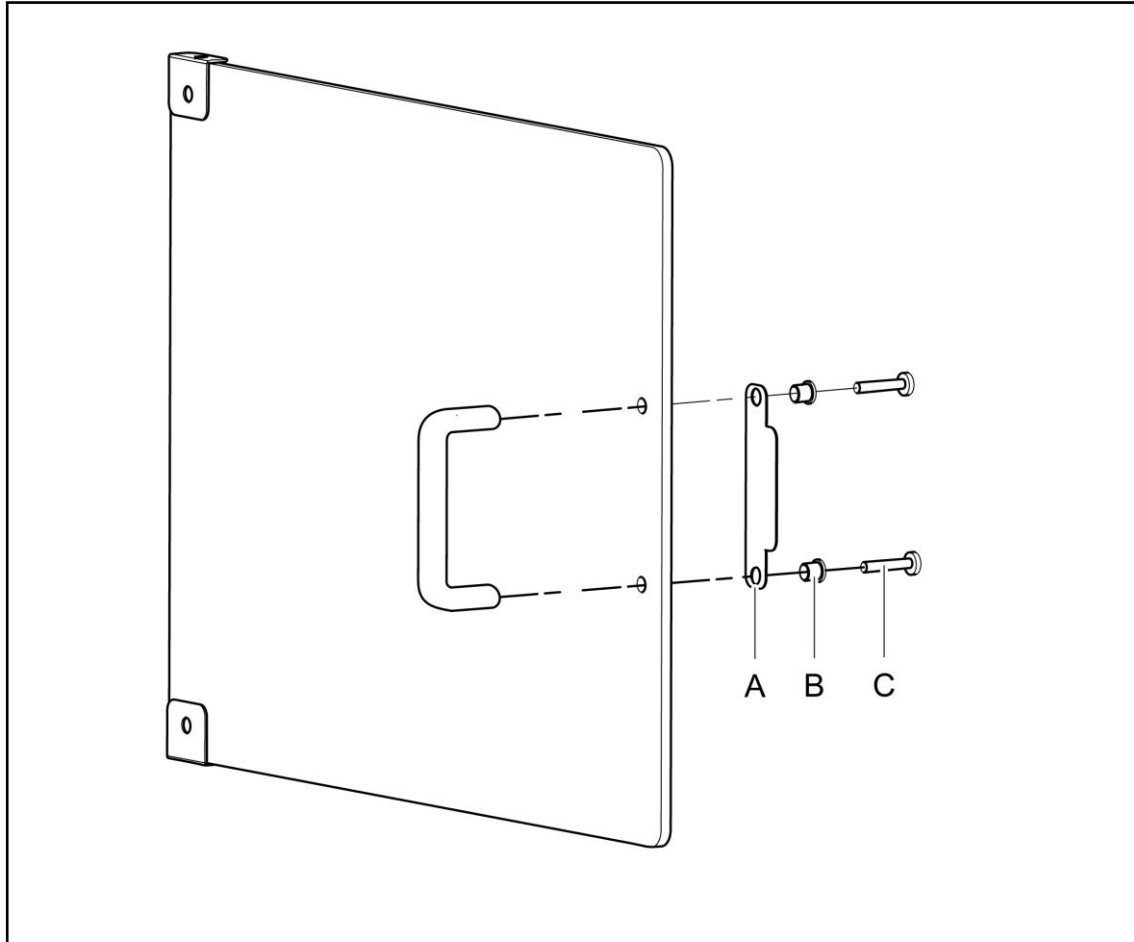

Fig 2
Assemble the door handle as shown in Fig 2, with the grommet (B) passing through the plate (A) to protect the glass from the bolts (C).